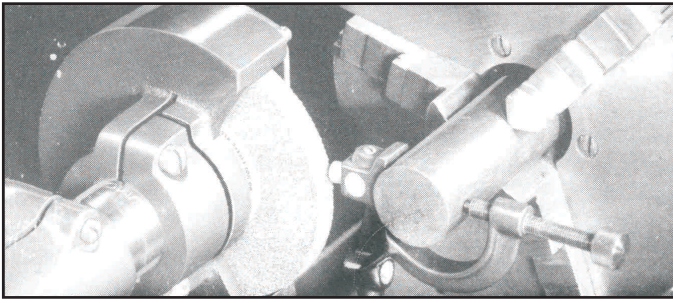

Figure 8
10. Dress the wheel to make the grinding face parallel with the workpiece. This is done by clamping the diamond dresser to the workpiece as illustrated in Figure 8. This is for external grinding. Dressing for internal grinding is described later. Turn the grinder switch on and make a very light pass over the diamond nib using the hand wheel to traverse. Make several passes back and forth over the nib without resetting depth dial. Since wheels are costly and have to be replaced as they wear down, always take a very light pass over the diamond nib. For precision grinding of all kinds, truing is necessary at intervals in order to insure accuracy of results.
13. Occasionally, when grinding the full length of a piece mounted between lathe centers, the grinder must be positioned to allow pulley end to clear tail stock. To do this, loosen mounting post screw (36), and turn wheel end in toward workpiece sufficiently to clear tail stock with pulley. Lock grinder in position and dress wheel face parallel with workpiece.